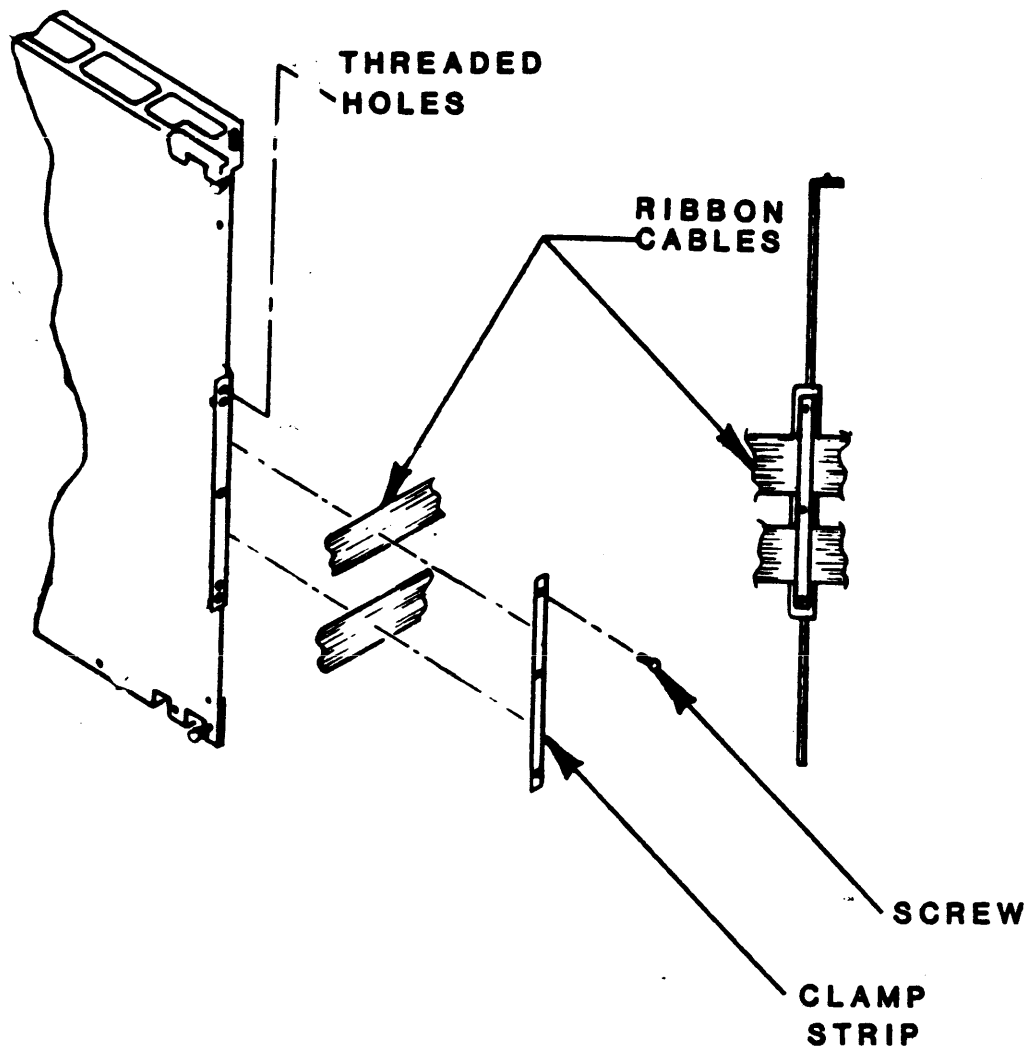

Figure 3-9. I/O Ribbon Cable Installation
4. Place the ribbon cables against the logic cage bracket. Reference Figure 3-9. Place the clamp strip over the cables and secure the clamp strip to the cable bracket with 3 screws and washers. Reference Figure 3-9. Be sure the clamp strip and the cable bracket make good contact against the ground shield of the ribbon cables. The top and bottom threaded holes in the cable bracket provide additional grounding points, as required. Reference Figure 9.